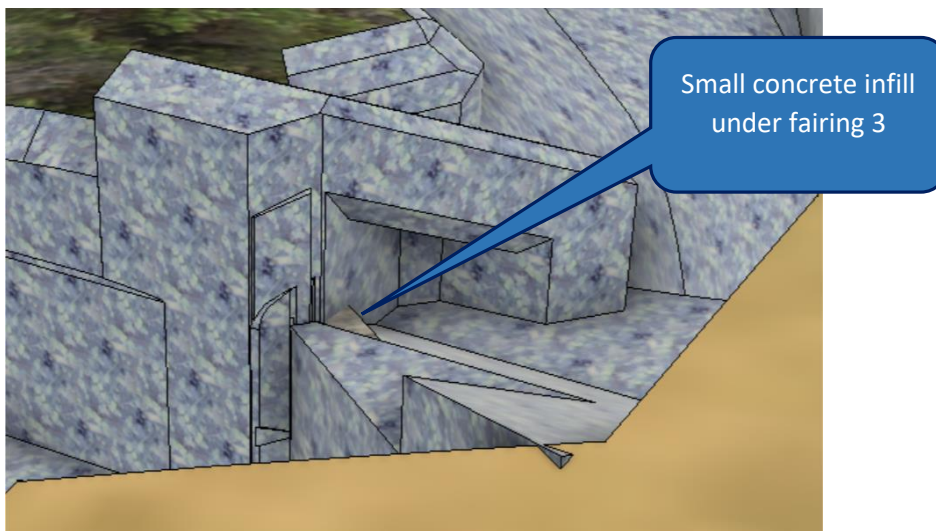

Figure 5. Supporting fillet for fairing 3.
- Small concrete in-fill under fairing 3 (Figure 5).